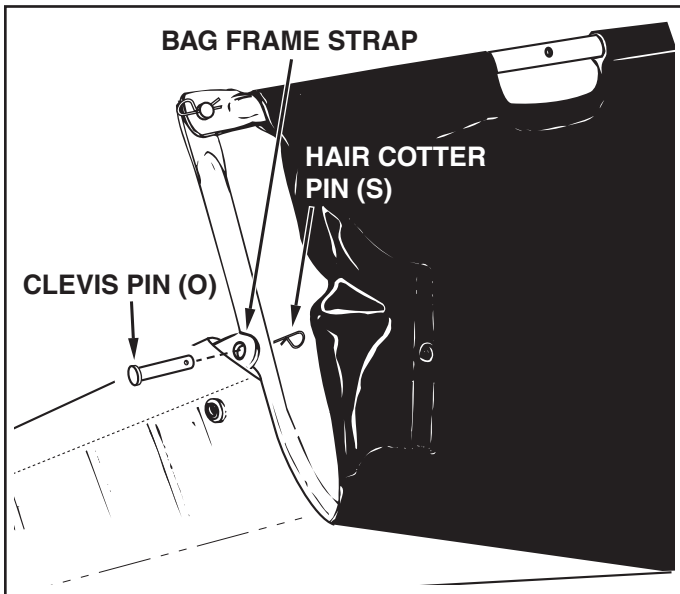

FIGURE 15
- Assemble the bag frame strap to the holes in the lower hopper tubes using two clevis pins (O) and hair cotter pins (S). See figure 15.